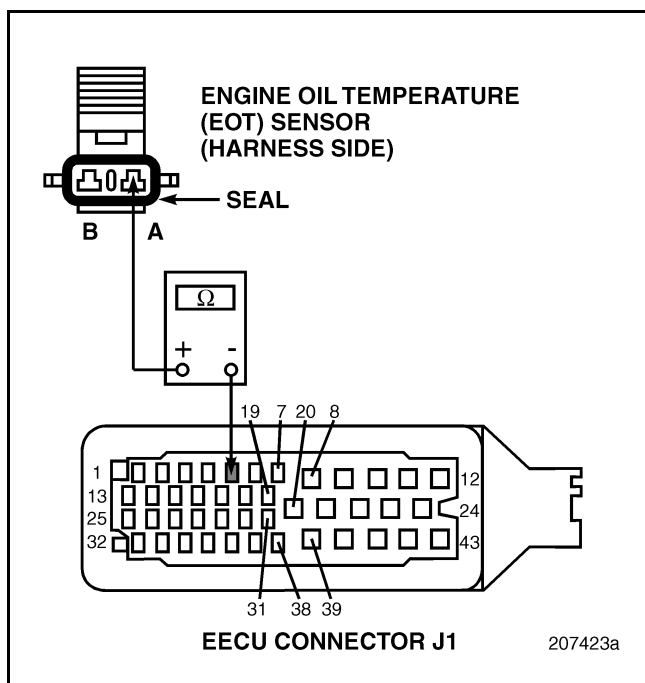

Figure 273
4. Check for continuity between pin A of the EOT Sensor harness connector and EECU harness connector J1 pin 5 (see Figure 273).